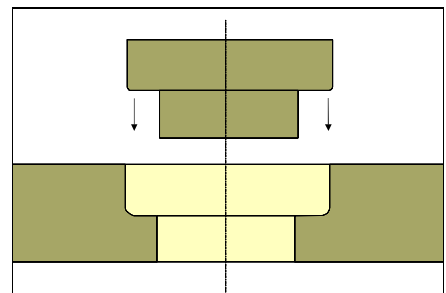

Figure 5: Bond replacement piece in place.
10. Coat both the tongue and groove surfaces with epoxy and fit together. (See Figure 5). Remove excess epoxy.